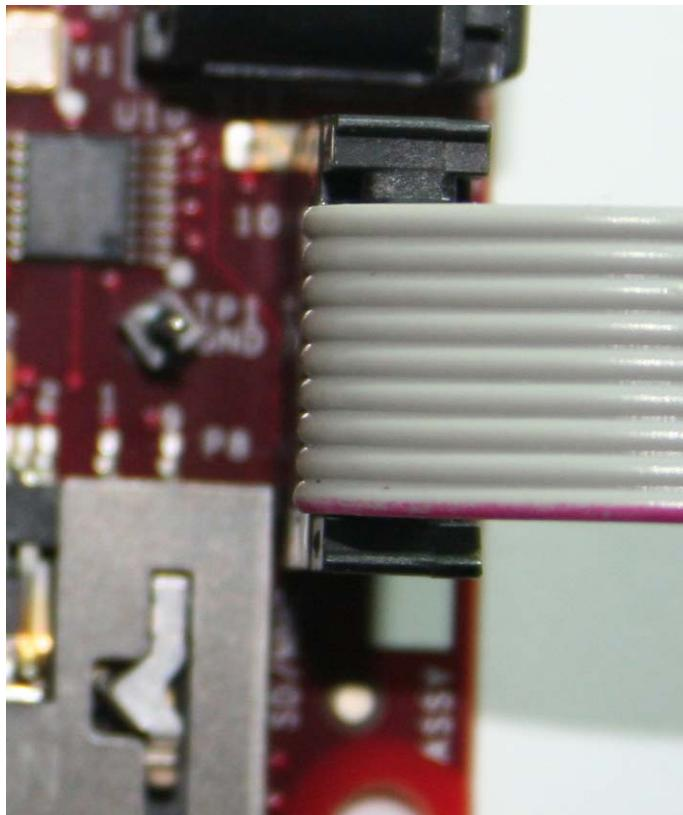

Figure 73. BeagleBoard Serial Cable Orientation
2. Make sure that the cable is plugged in correctly. The red stripe should be at the bottom next to pin1 of P9. Some cables may have the flat cable extending away from the BeagleBoard and others may be extending toward the middle of the BeagleBoard. **Figure 73** shows the proper orientation of the IDC serial cable.